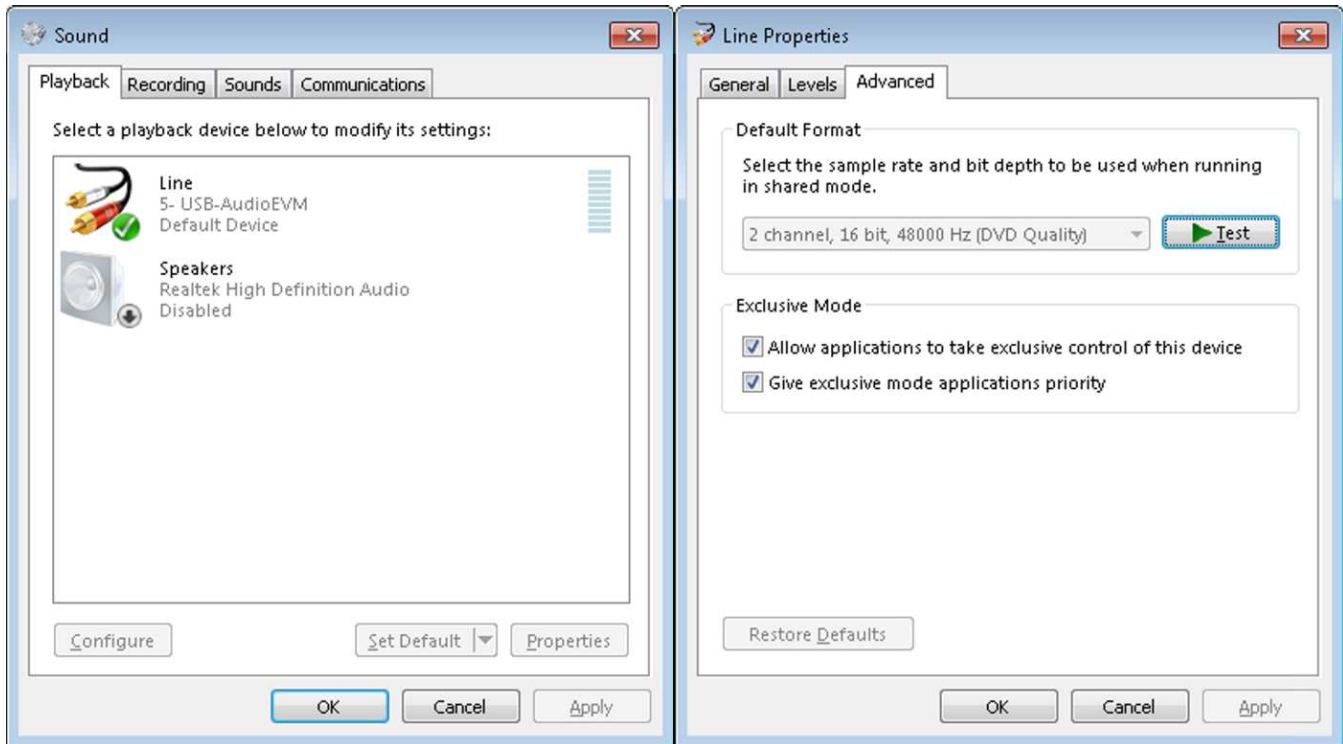

Figure 2. Setting Default Playback Device
- Verify that the EVM is the default playback device by opening the sound dialog from the Windows Control Panel as shown in Figure 2.
6. Play the test tone as shown in Figure 2.